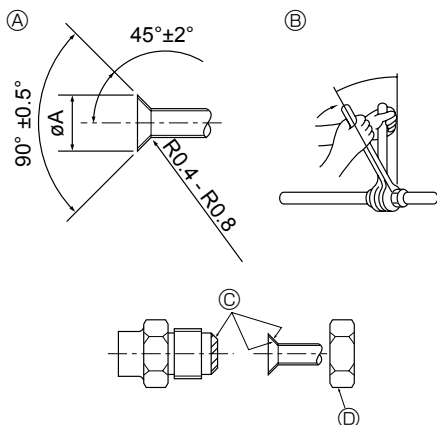

Fig. 4-1
4.1. Connecting pipes (Fig. 4-1)